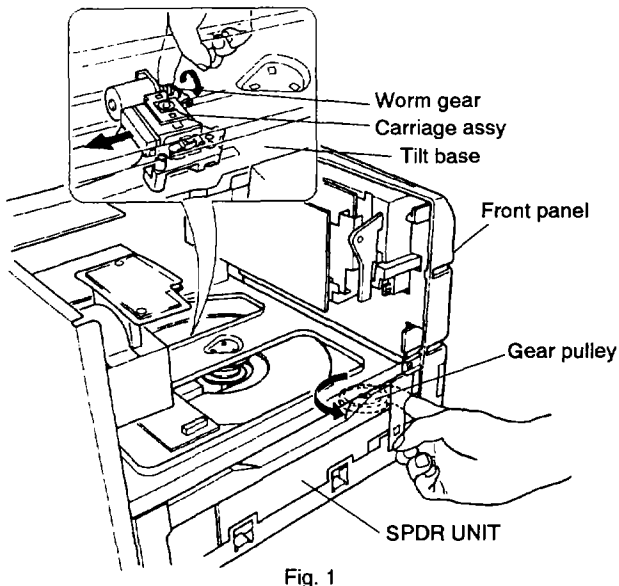

Fig. 1
2.1 TRAY (See Fig. 1 and 2)
2. Insert a finger between the front panel and SPDR UNIT, and turn the gear pulley counterclockwise (see from the top position.) until the tilt base comes to uppermost position. (Fig. 1)